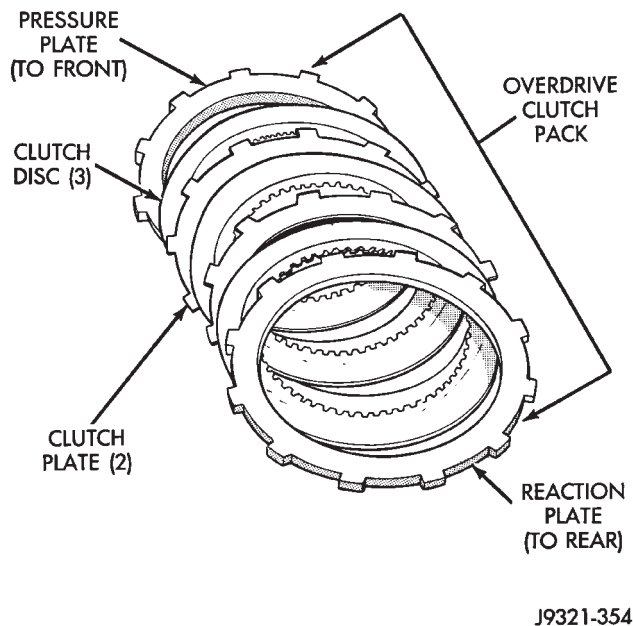

Fig. 10 Overdrive Clutch Component Position
(3) Note position of clutch pack components for assembly reference (Fig. 10). Thick reaction plate goes to front as shown.